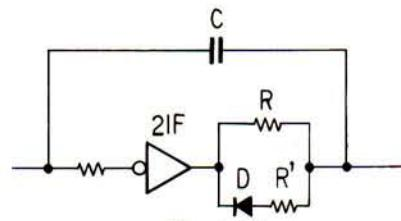

Fig. 1-15
- The circuits of Figs. 1-15 and 1-16 are not oscillators but are integrators using the very high input impedance of MOS ICs. The purpose of using these circuits is to obtain some delay which is achieved by C and R.